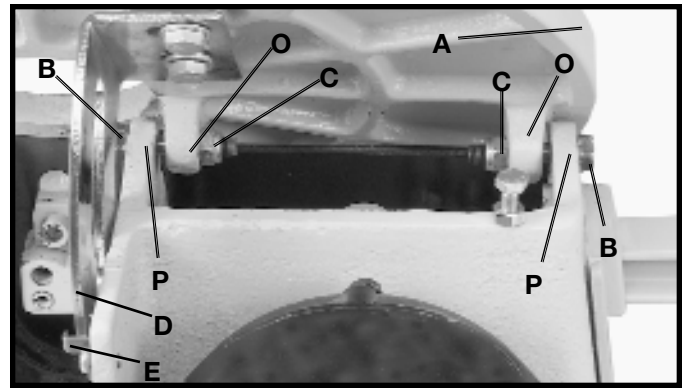

Fig. 7
5. Position table (A) Fig. 7, on the machine as shown. Align the two holes in the table trunnions (O) with the two holes in the base (P) of the machine. **NOTE: BEFORE TIGHTENING THE M6x1x45mm SPECIAL SCREWS (B) AND M6 LOCKNUTS (C) FIG. 7, MAKE SURE THE TILT SCALE (D), IS POSITIONED INSIDE POINTER (E) AS SHOWN. ALSO, DO NOT COMPLETELY TIGHTEN THE M6x1x45mm SPECIAL SCREWS (B) AND M6 LOCKNUTS (C). TABLE MUST BE ABLE TO TILT FREELY.** Fasten the table (A), to the base (P), using the two M6x1x45mm special screws (B), and M6 locknuts (C) as shown.